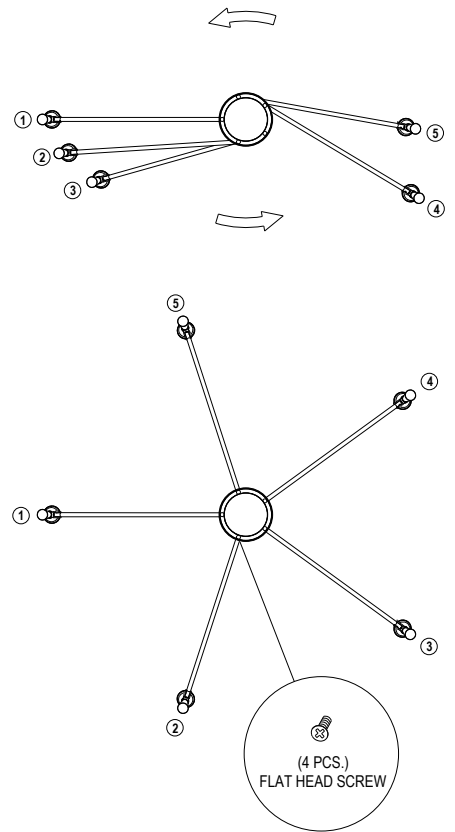

FIGURE-02
- Rotate the arms counter clockwise to their designated places. Start rotating from arm 5 up to arm 2. and secure with flat head screw. (See Figure-02)